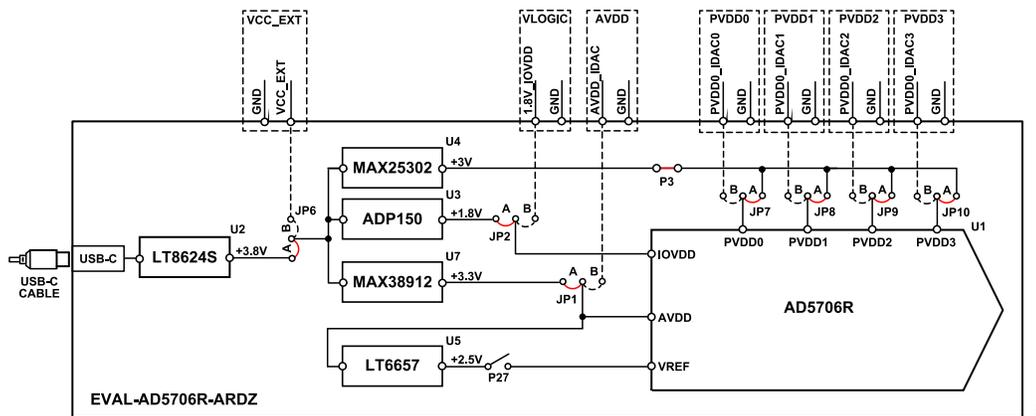

Figure 2. Powering the EVAL-AD5706R-ARDZ Evaluation Board
1. Check the default jumper connections. See Figure 2.
The EVAL-AD5706R-ARDZ board contains the U5 (2.5V, 1.5ppm/°C) voltage reference. To use it as the reference source for the AD5706R, insert a shunt into the jumper P27. When using on-board voltage reference, disable the AD5706R internal reference (see Figure 2). Additionally, there is a Subminiature Version A (SMA) connector J1 that allows sourcing an external reference signal.